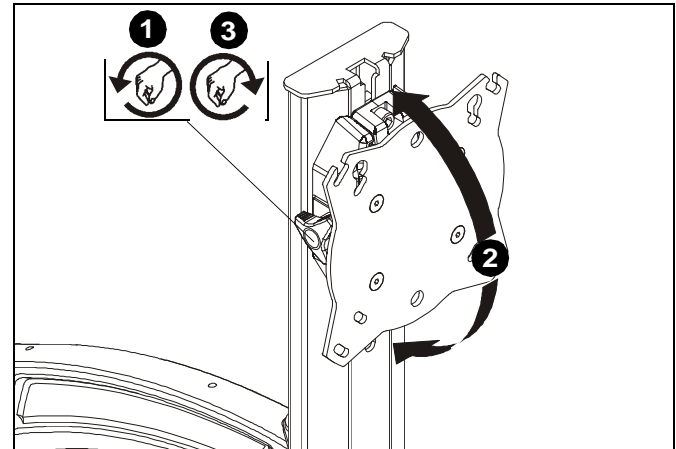

Figure 26
- Loosen knob on side of center faceplate assembly. (See Figure 26)
- Adjust pitch as desired. (See Figure 26)
- Tighten knob to secure desired pitch position. (See Figure 26)